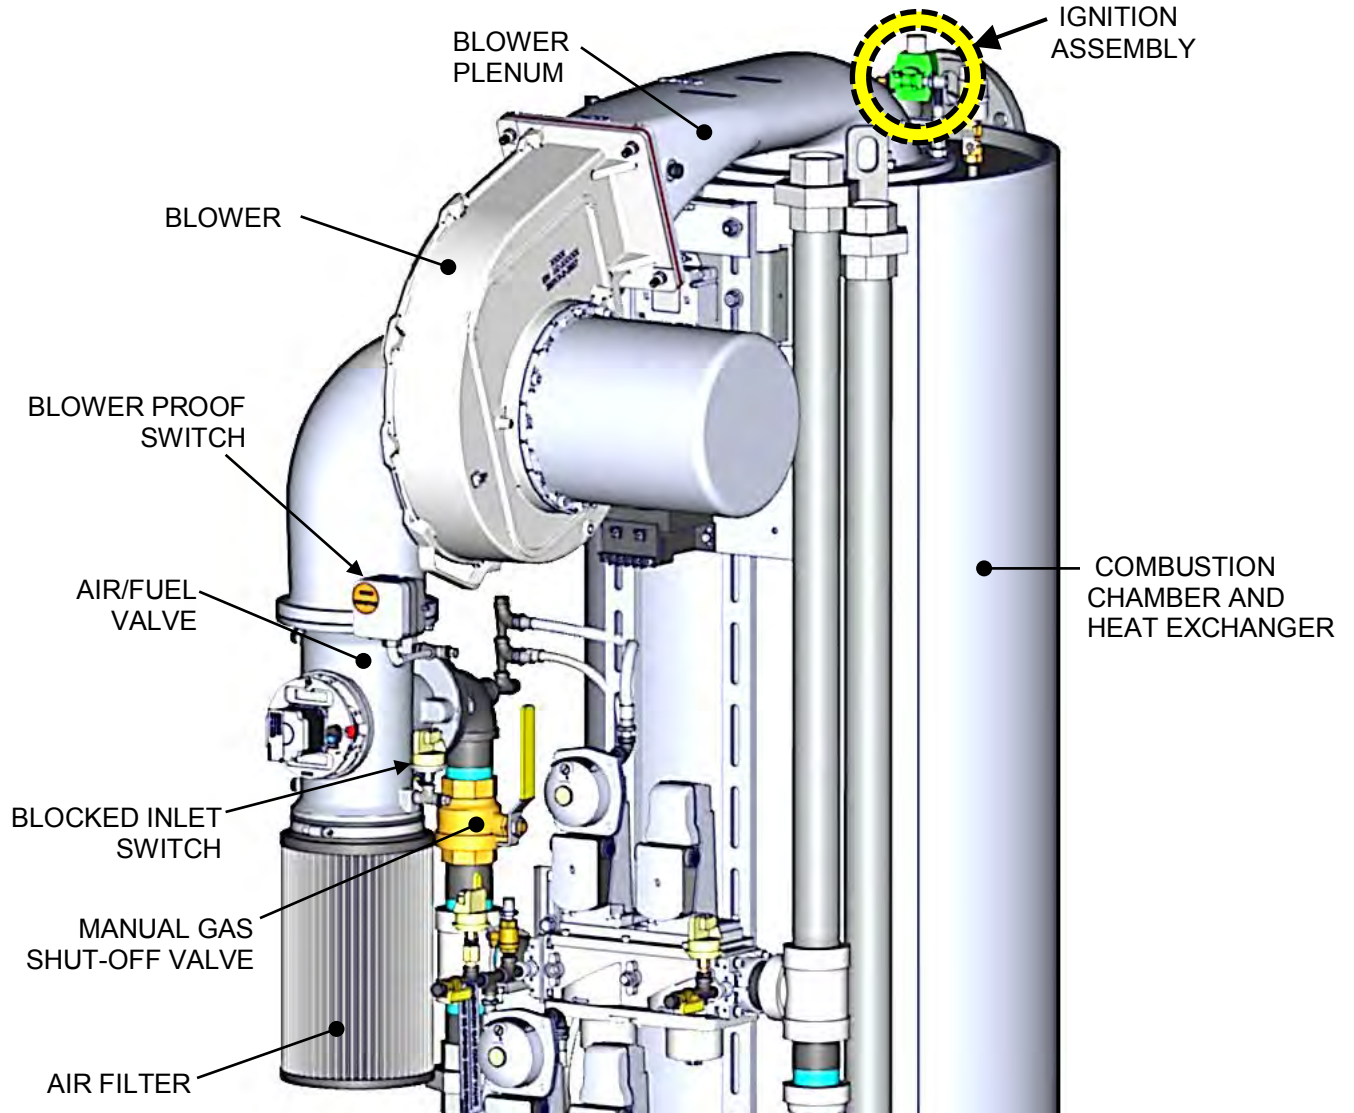

Figure 6-3: Bare Boiler – Partial View (BMK 3000DF Pictured)
3. Close the Manual Gas Shutoff Valve located between the Safety Shut-Off Valve (SSOV) and the Air/Fuel Valve (see Figure 6-3).
8. Once flame is proven, close the manual gas valve located between the SSOV (Figure 6-3) and the Air/Fuel Valve.
These tests check the operation of the Blower Proof Switch and Blocked Inlet Switch shown in Figure 6-3.